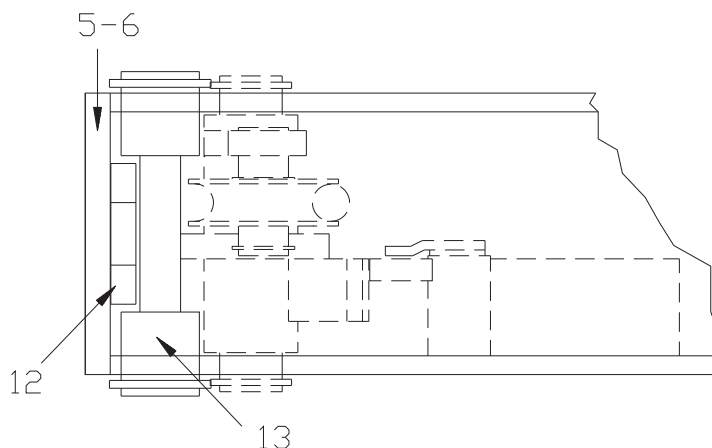

Fig.43 Housing for fitting safety rod
Fit the safety rods (12) from the top of the posts, inserting them between the rear face of the cross-pieces (5-6) and the guide pins (13) as shown in figure 43. Check the safety rods are straight. Fit the safety rods with the rounded edges of the slots towards the front of the posts.